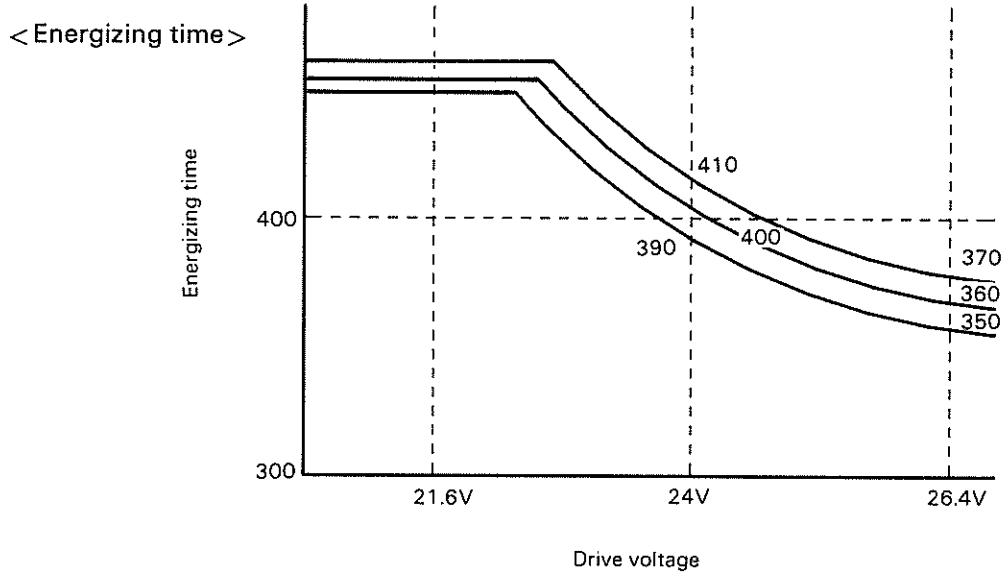

Fig. 2-33. Energizing Pulse Width
2.6.6.2 Energizing Time Control (Fig. 2-33)